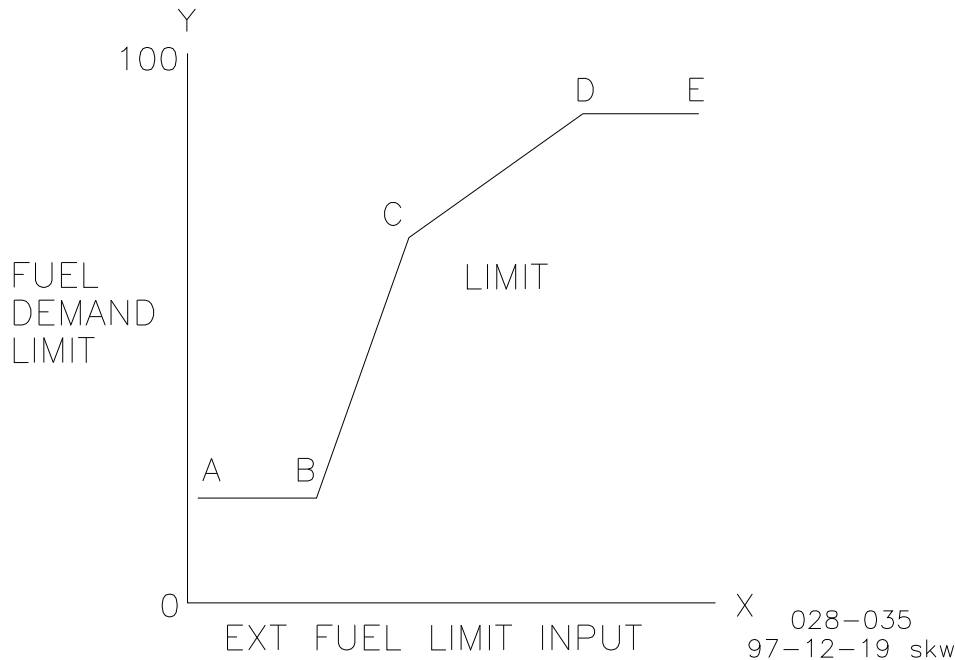

Figure 3-7. Fuel Limit Breakpoints
A five-point curve is constructed using the manufacturer recommended settings for MAP versus Fuel Demand. Refer to Figure 3-7. The 'X' values are the Breakpoints and the 'Y' values are the Fuel Limit at the Breakpoints. All values between the designated breakpoints are interpolated.
2. **MAP BREAKPOINT X** is the Manifold Air Pressure value that designates that particular breakpoint (x-axis input in Figure 3-7).
3. **FUEL LIMIT AT BP X** is the percent fuel demand allowed when the Manifold Air Pressure is at that respective Breakpoint (y-axis output in Figure 3-7).